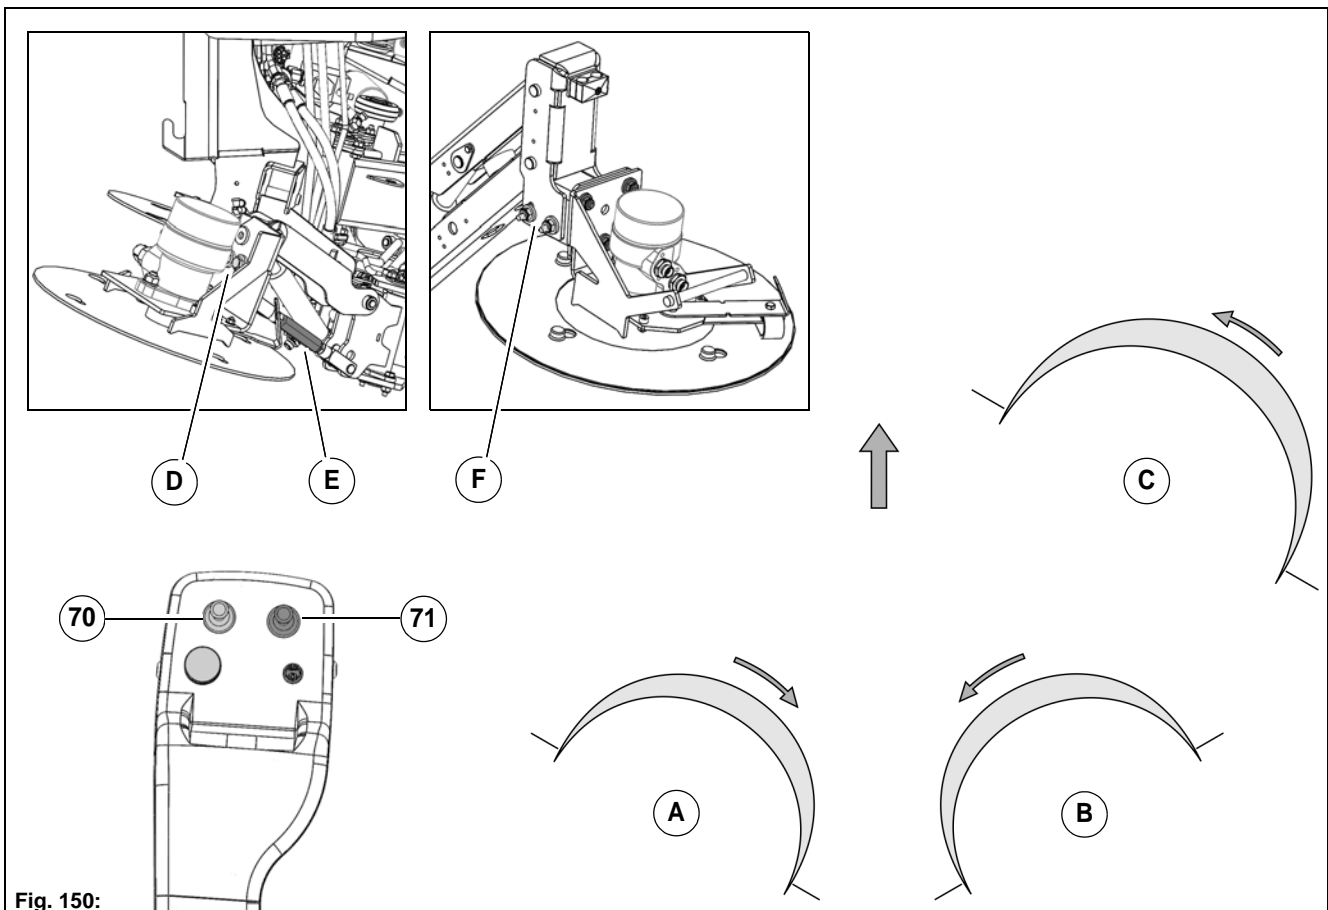

Fig. 150:
The sweeping level **Fig. 150-A** and **Fig. 150-B** for the pulled rotating brushes is adjusted in the factory with the screws **Fig. 150-D** and **Fig. 150-E**.
The sweeping level **Fig. 150-C** for the 3rd rotating brush is adjusted in the factory with the screws **Fig. 150-F**.
- Left rotating brush **Fig. 150-A** from 10 a.m. to 4 p.m.
- Right rotating brush **Fig. 150-B** from 8 a.m. to 2 p.m.
- 3rd rotating brush **Fig. 150-C**: